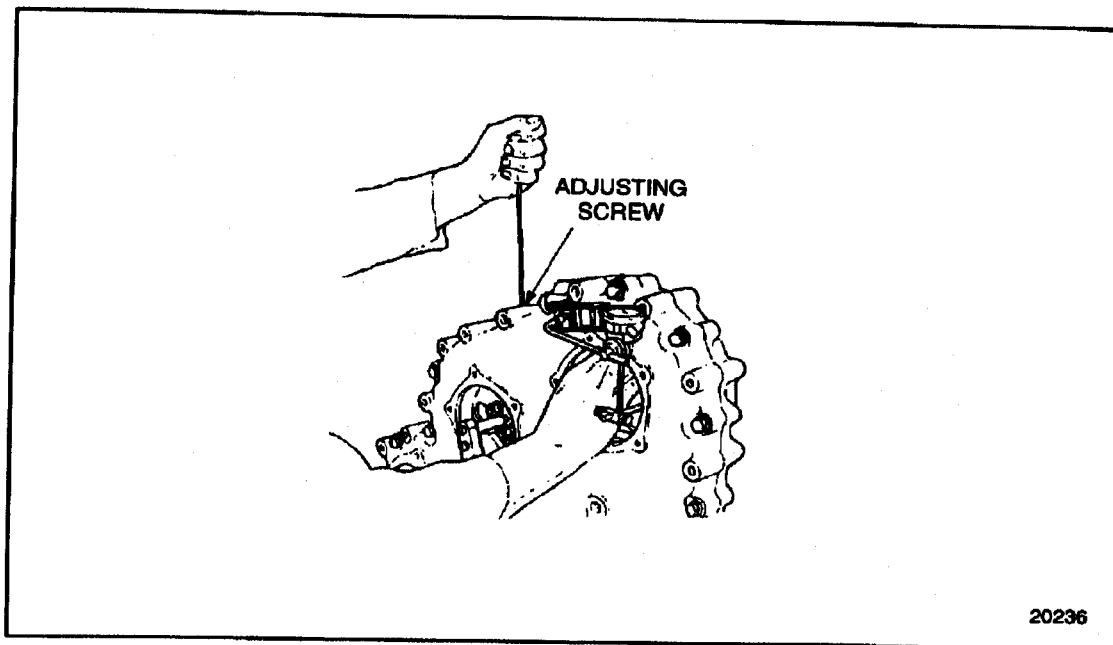

Figure 1-312 **Checking Adjustable Idler Gear-to-Camshaft Drive Gear Lash**
- [l] When checking gear lash, hold the adjustable idler gear stationary. Refer to step 8[i] as the first step and refer to step 8[j] as the final step, and rotate the camshaft drive gear with your right hand. See Figure 1-312.